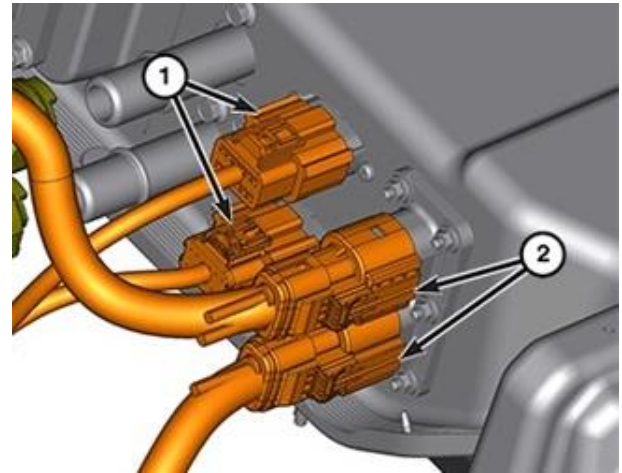

Figure 39 – Wire Harness Connectors
- 56. Unlock and disconnect the low-voltage wire harness connectors (1) from the high-voltage battery (Figure 39).
- 57. Unlock and disconnect the On-board Charging Module (OBCM) and Electric Coolant Heater (ECH) high-voltage wire harness connectors (2) from the high-voltage battery (Figure 39).
- 58. Cap the connectors on the high-voltage battery with the Covers, HEV Battery Terminal 2035100082 (Figure 39).